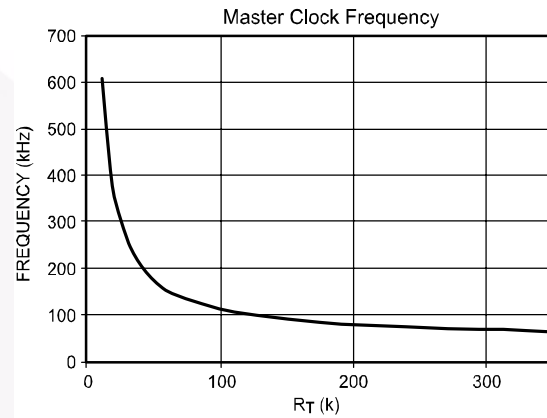

Figure 18. R_T vs. Frequency
The clock frequency on the oscillator is set using an external resistor, connected between R(T) pin and ground. The frequency follows the graph, as shown in Figure 18. The minimum clock frequency is $50kHz$, which is when R(T) pin is left open. Select the value of R(T) as shown in the equation below. This equation is valid for all $f_{OSC} > 50kHz$: